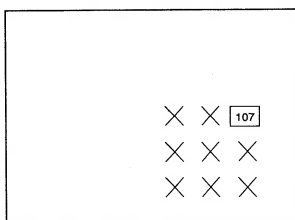

fig. 15
- Adjust value on the picture to 107 (fig. 15)